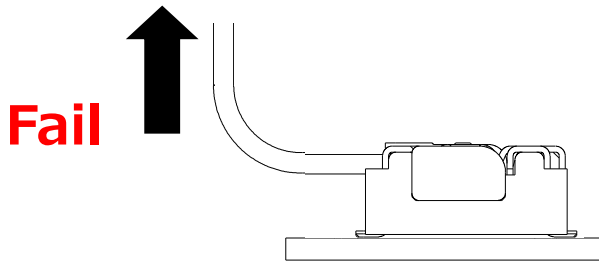

Fig.3
- Do not pull up the cable to withdraw the plug connector as shown in Fig. 3.